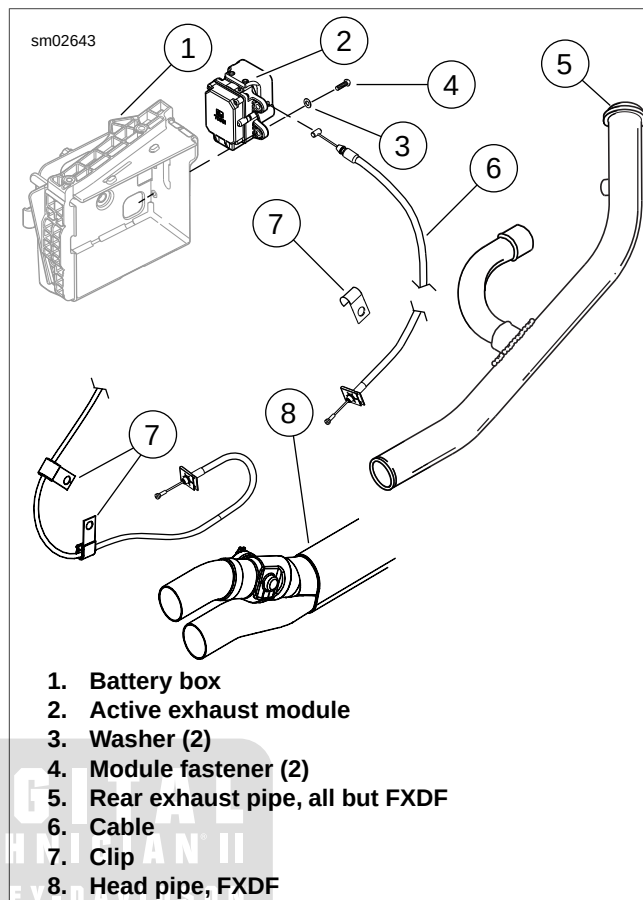

Figure 7-73. Active Exhaust
2. See Figure 7-73. Remove module fasteners (4) and washers (3) from battery box (1).